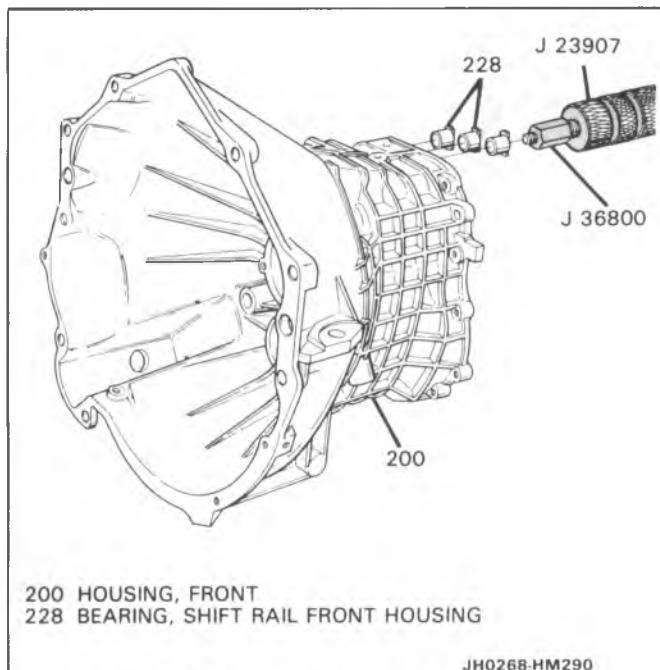

Figure 37 Removing Shift Rail Bearings
1. Ball bearing outer race (216), using brass drift.
2. Three shift rail front housing bearings (228), using J 36800 and J 23907 (Figure 37).